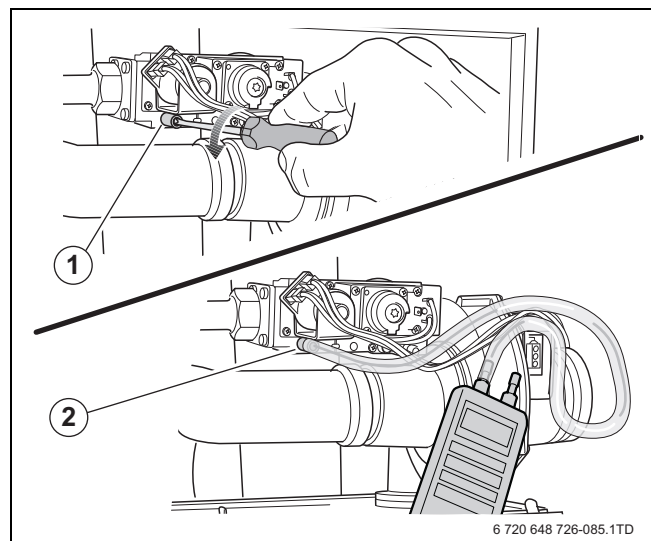

Fig. 85 Measuring the gas supply pressure
- ▶ Slowly open the gas valve by pushing on the gas valve and turning it anticlockwise through  $\frac{1}{4}$  rotation ( $\rightarrow$  fig. 85, page 58). The gas valve is open when it is in the vertical position.